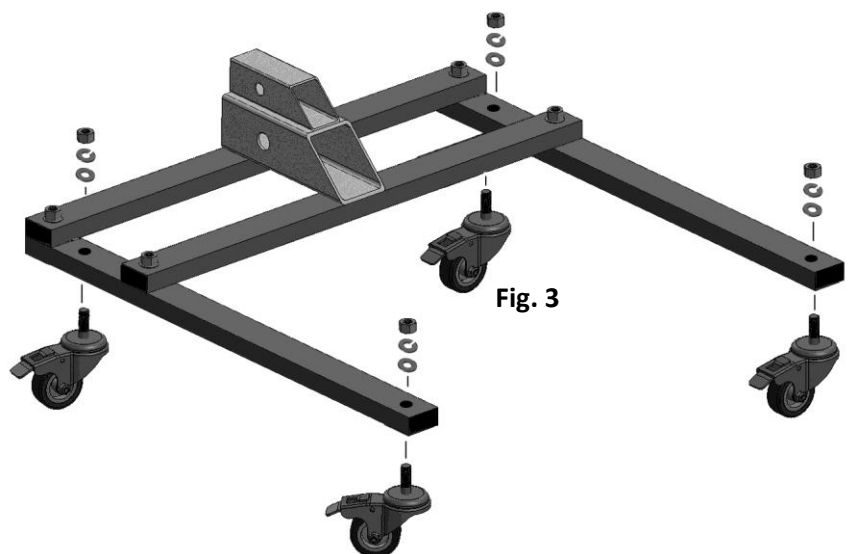
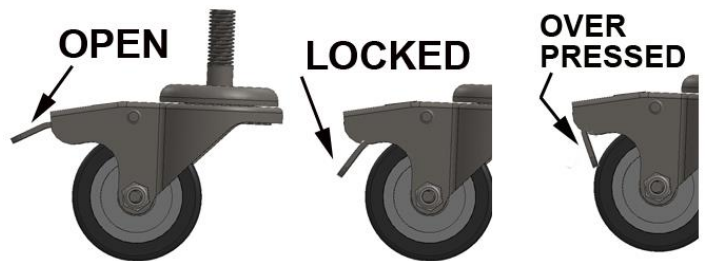

Fig. 3
Fig. 4
2. Per Fig. 4, carefully press down on the tab of the caster (E) so it will not spin. Per Fig. 3, Insert threaded stem of the caster through the hole. Install (D) 10mm flat washer, then split washer and nut onto threaded stem. Next, hold the caster and tighten the nut with adjustable or 17mm wrench. Repeat for other three casters.
LOCKING THE CASTER (Fig. 4): Wearing shoes, gently press the tab of the caster down with your foot to lock it. When locked, the caster will not spin or roll. (**NOTE:** The tab should not be pressed flat against the wheel. If by accident it is “over pressed”, you will need to pull it by inserting a small flat screwdriver between the wheel and tab, then gently pry it back. **UNLOCKING THE CASTER:** Place the tip of your shoe below the tab and lift up.